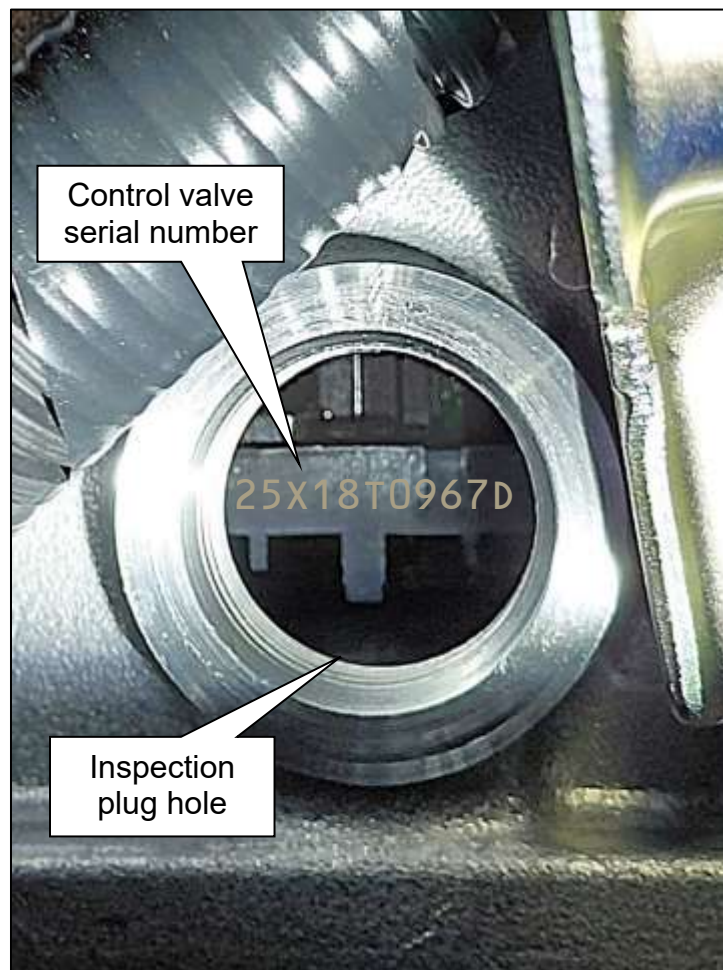

Figure 9
- a. Using a light source, locate the eleven (11) character serial number on the control valve.
- c. The date code is the first five (5) characters of the serial number.
- Example: **25X18**T0967D (Figure 9)